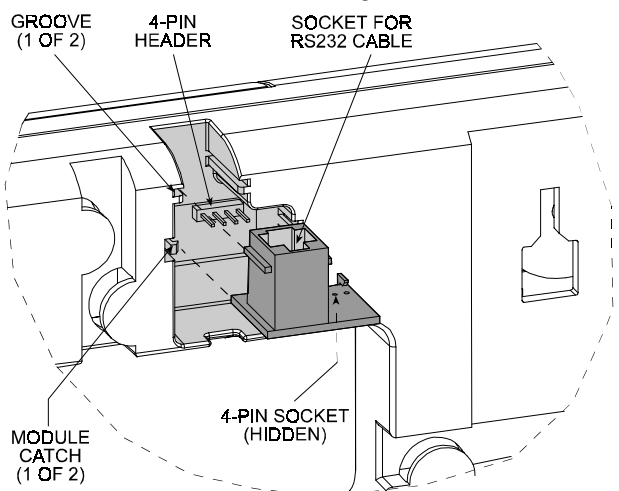

Figure 26. Inserting the RS232 Module
**C. Align the RS232 module with the grooves and the module catches as shown in Figure 26.**